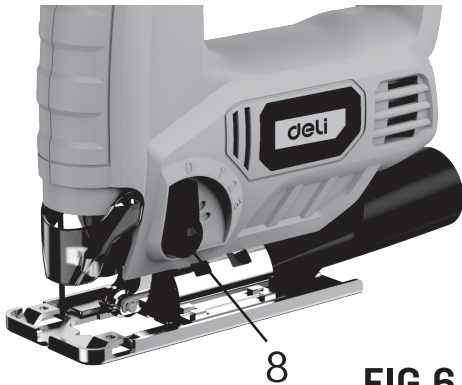

FIG.6
Note: Metal or hardwoods should never be cut in orbital action. To adjust the cutting action, moves the orbital switch knob (8) between the four cutting positions: 0, 1, 2, and 3. Position 0 is the straight cutting. Positions 1, 2 and 3 are orbital cutting. The aggressiveness of the cut increase as the knob is moved from one to three, with three being the most aggressive cut. (See Fig. 6)